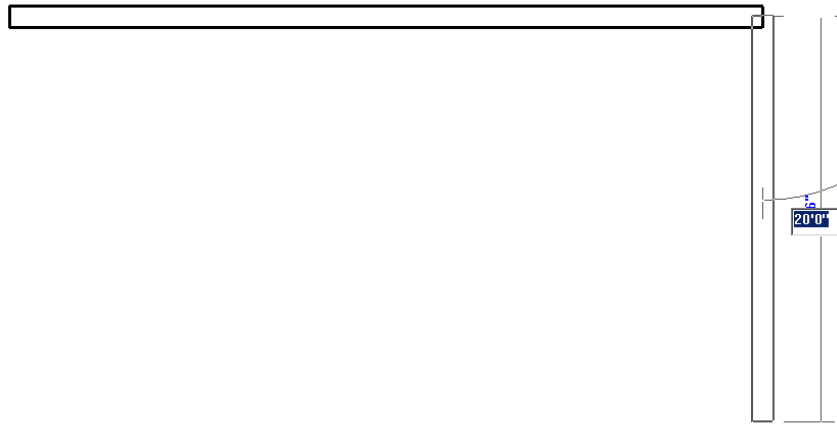

Figure 2-28 *Creating the second wall segment*
2. As you move the cursor, a dynamic wall starts with one end attached to the specified point and the other attached to the cursor. Move the cursor vertically downward so that you see a dashed vertical line inside the wall segment. Now enter **20'0"** as the value of the length. An edit box is displayed with the dimension you have entered, as shown in Figure 2-28. Press the ENTER key. The second wall segment is sketched to exactly 20'0" length. Notice that the intersection of the first and the second wall segment has been intuitively filled or completed.